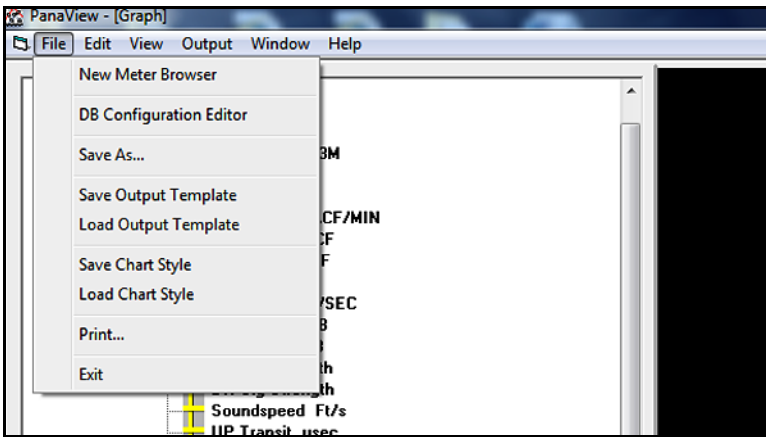
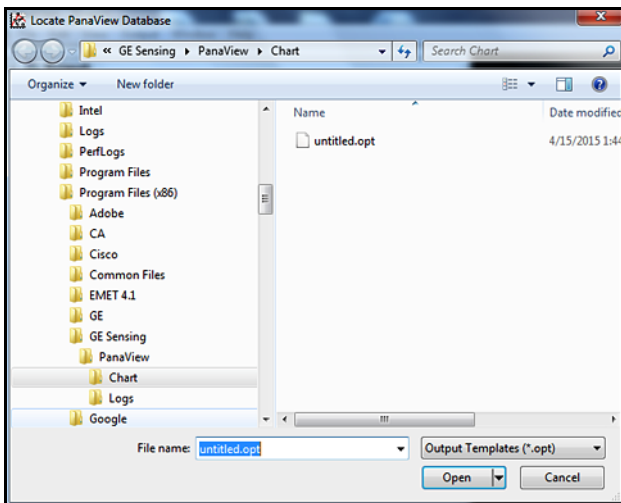
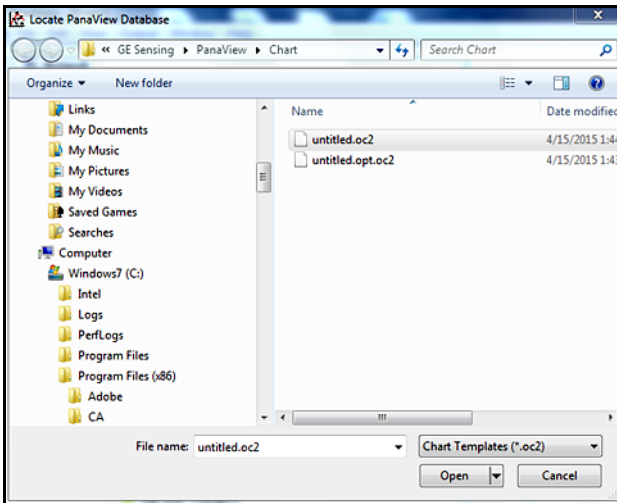

Figure 55: The File Menu for Graphs
Figure 59: Opening an Output Template
Figure 60: Opening a Chart Style Template
After setting up a chart (graph), as described in the previous section, you will find that several new menu options are now available in the “*File*” menu (see *Figure 55* below).
- Open the “Output” menu and click on the “Graphing - From Template” option (see *Figure 51 on page 72*) or open the “File” menu and click on the “Load Output Template” option (see *Figure 55 on page 80*). If any output templates (*.opt) have been saved, select the desired file in the dialog box shown in *Figure 59* below. Then, click on the [Open] button to load the properties and parameters to be graphed from the output template selected.
- Open the “File” menu and click on the “Load Chart Style” option (see *Figure 55 on page 80*). If any chart templates (*.oc2) have been saved, select the desired file at the dialog box shown in *Figure 60* below. Then, click the [Open] button to load the graph properties from the output template selected.